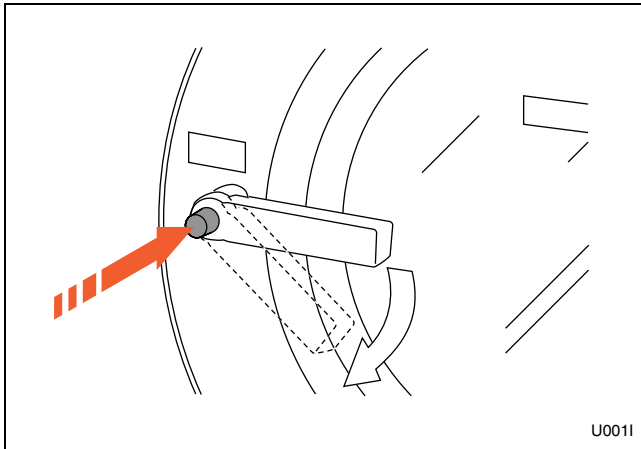
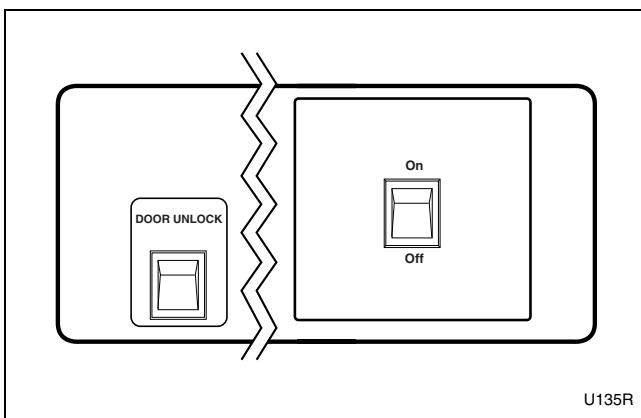

Figure 3
Figure 4
For non-coin models: Turn on the On/Off switch on the front panel to the On position. Refer to *Figure 4*.
2. Push button and turn handle clockwise to open. Refer to *Figure 3*.
For non-coin models: Press and hold the DOOR UNLOCK button on the left side of the control panel while performing the above step. Refer to *Figure 3* and *Figure 4*.